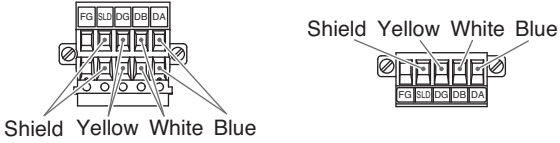

Figure 1
- (1)Connect the signal wires to the assigned pins. (Figure 1)